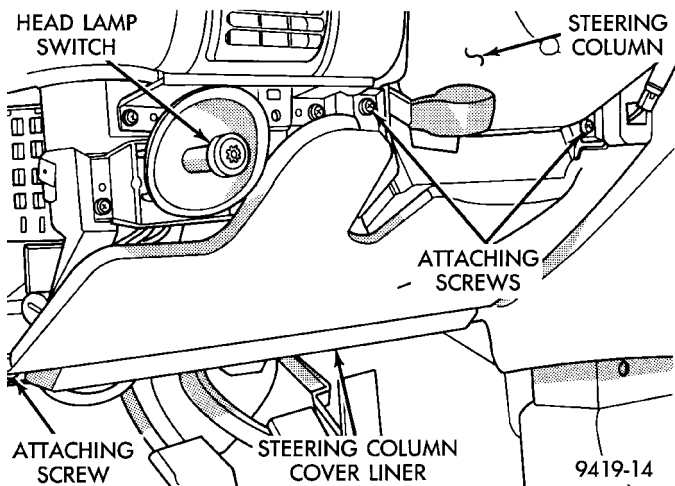

Fig. 7 Steering Column Cover Liner
(4) Remove 3 screws (Fig. 7) attaching the steering column cover liner to the instrument panel. Remove the liner from the lower instrument panel.